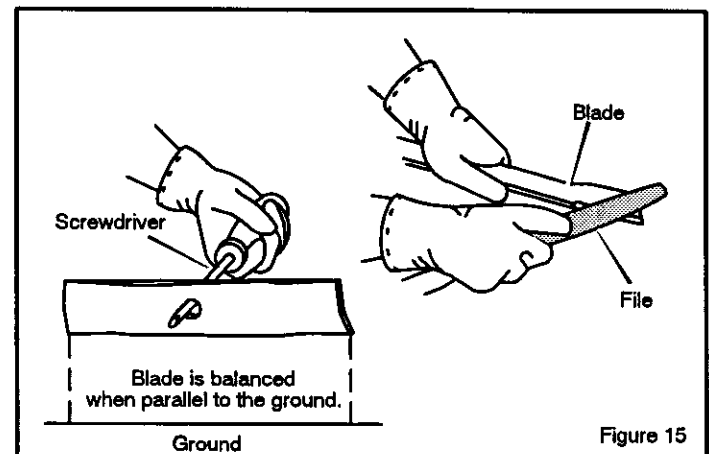

Figure 15
4. Sharpen the blade with a file (Figure 15). Make sure you keep the original bevel angle.
5. Make sure the blade is balanced. Use a screwdriver and hold the blade parallel to the ground (Figure 15). A blade that is balanced will stay parallel to the ground. If the blade is not balanced, the heavy end will rotate toward the ground. Sharpen the heavy end until the blade is balanced.